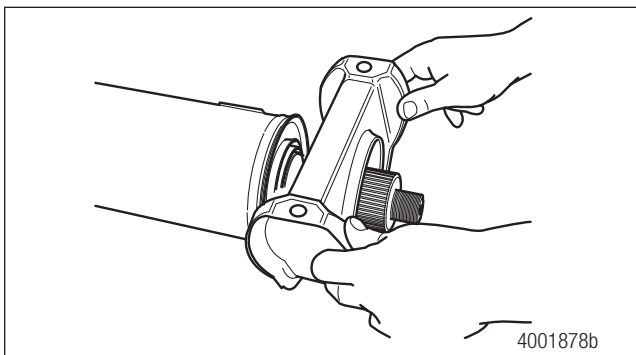

Figure 10.17
2. Carefully align the new center bearing assembly with the machined surface of the coupling shaft. Use your hands to push the center bearing onto the coupling shaft. Figure 10.17.